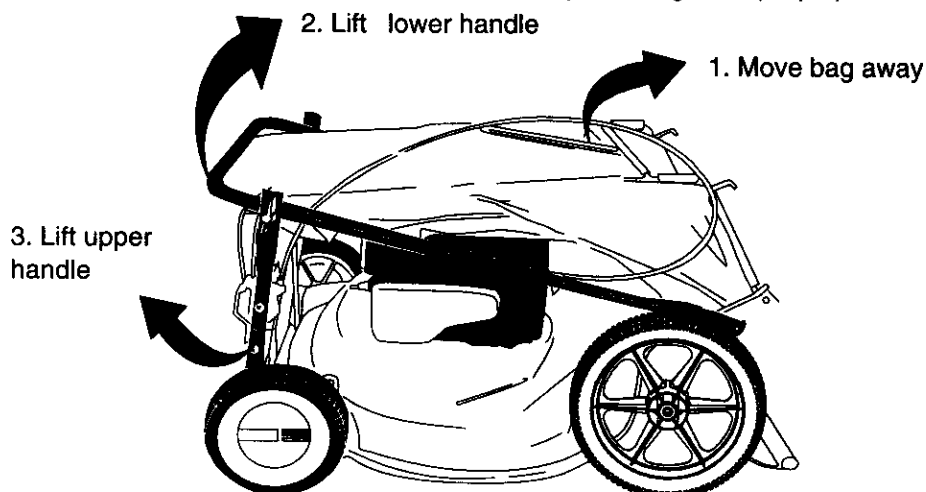

FIGURE 2
- Remove grass bag from the unit and set it out of the way. See Figure 2 (step 1).
- Raise the lower handle in the direction shown in Figure 2 (step 2) till it snaps into place.
- Raise the upper handle in the direction shown in Figure 2 (step 3). Tighten the wing nuts which are already on the handle. See Figure 3A.